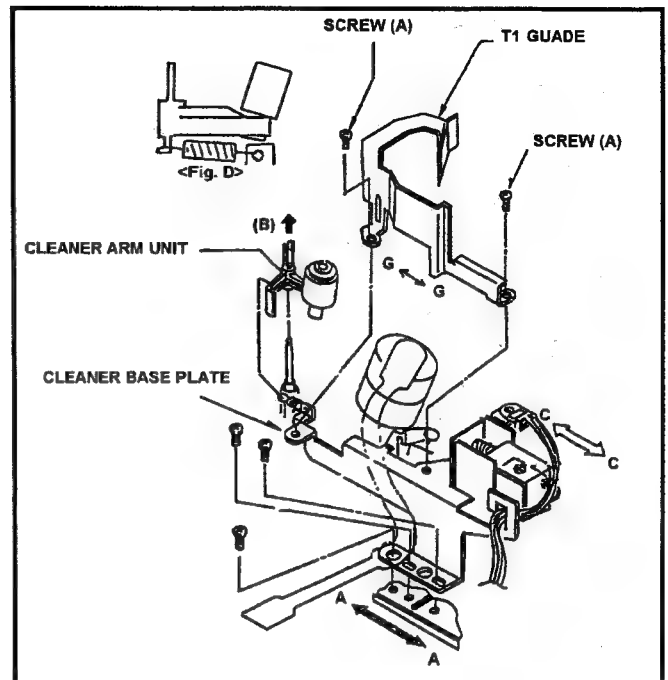
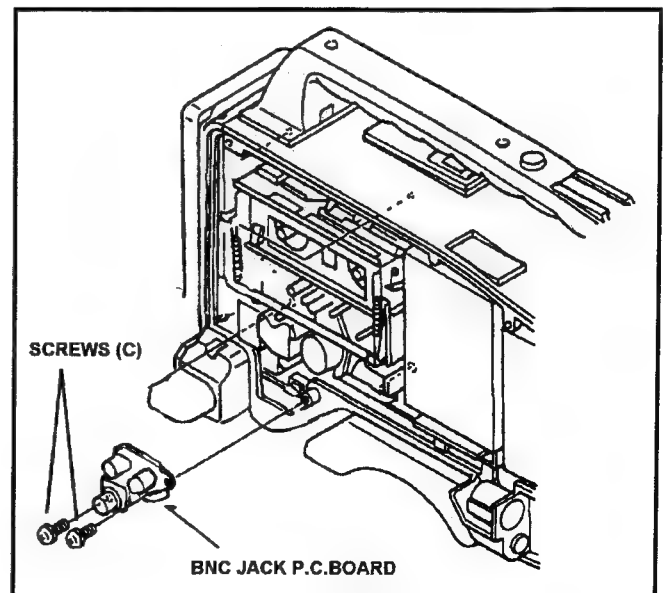

Fig. 8-8-1 Removal of Cleaner Roller Unit
Fig. 8-8-3 Removal of BNC JACK P.C.Board
2. Unscrew the **2 screws (C)** to remove the BNC JACK P.C.Board as shown in Figure 8-8-3.
3. Unscrew the **2 screws (A)** to remove the T1 Guide.
4. Pick up the **tip portion (B)** of Cleaning Arm Unit and remove the spring from Cleaner Arm Unit. Then remove the Cleaning Arm Unit as shown in Figure 8-8-1.